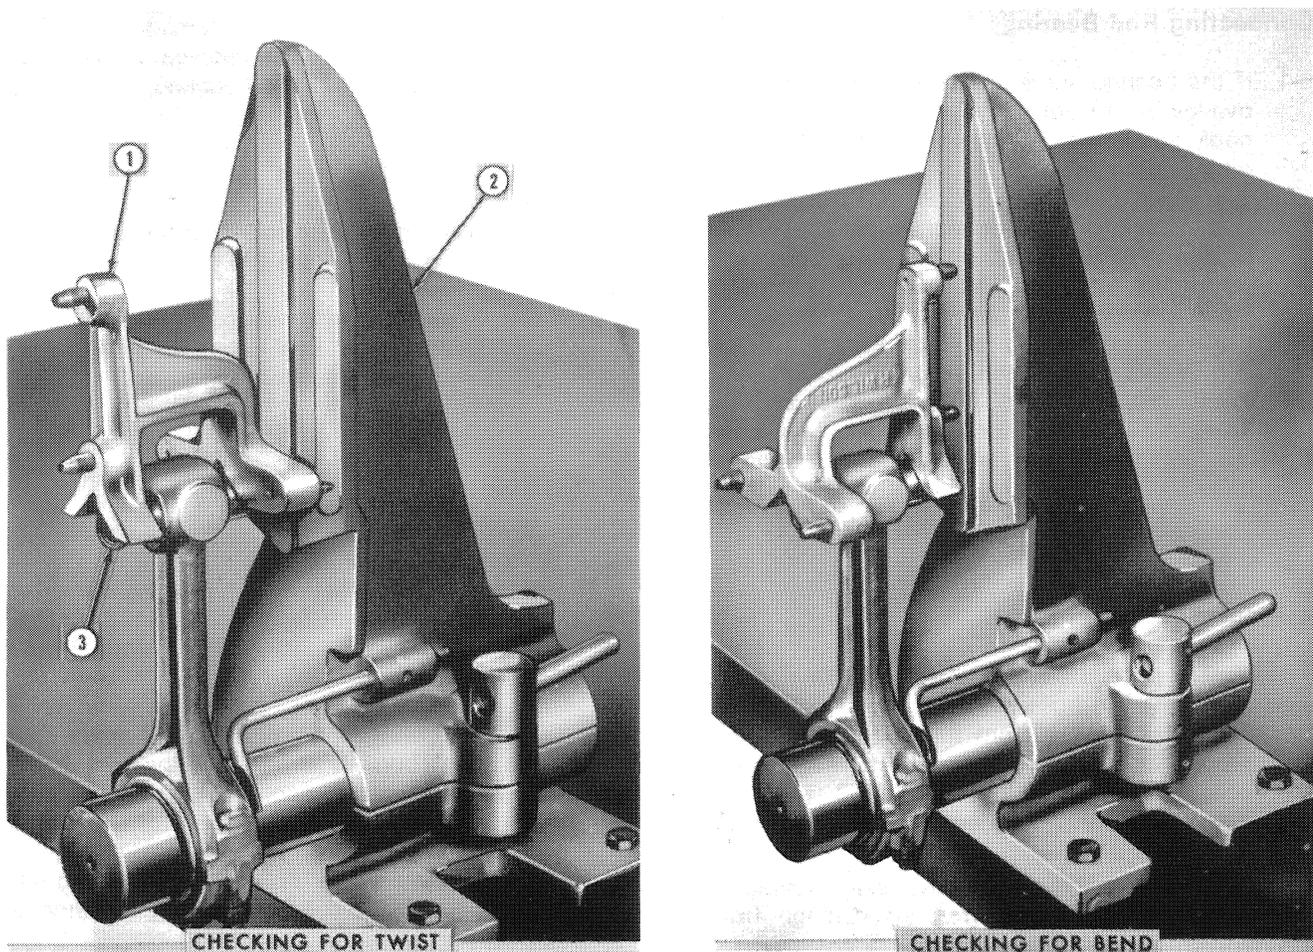

Figure 40
1. Place each connecting rod in an alignment fixture, as shown in Figure 40.